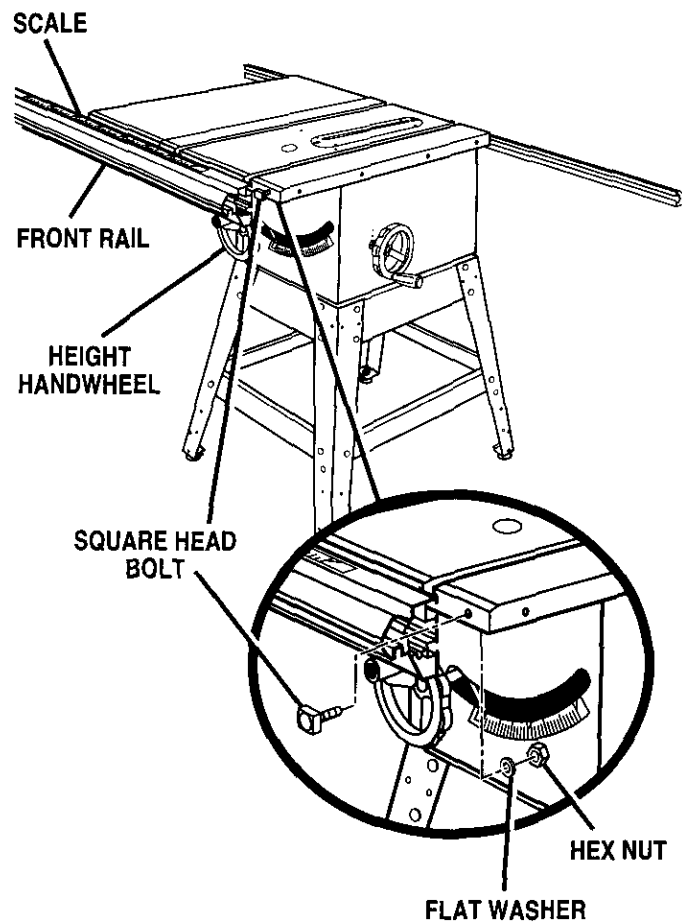

Fig. 15
See Figures 15, 16, and 17.
- Loosely attach a flat washer and a hex nut to each bolt. See Figure 15.
- Slide the rip fence back and forth. It should move freely with about 1/16 in. clearance between the rip fence and table surface. If it doesn't, loosen the nuts holding the front and rear rails and adjust the rails up or down. See Figure 15.